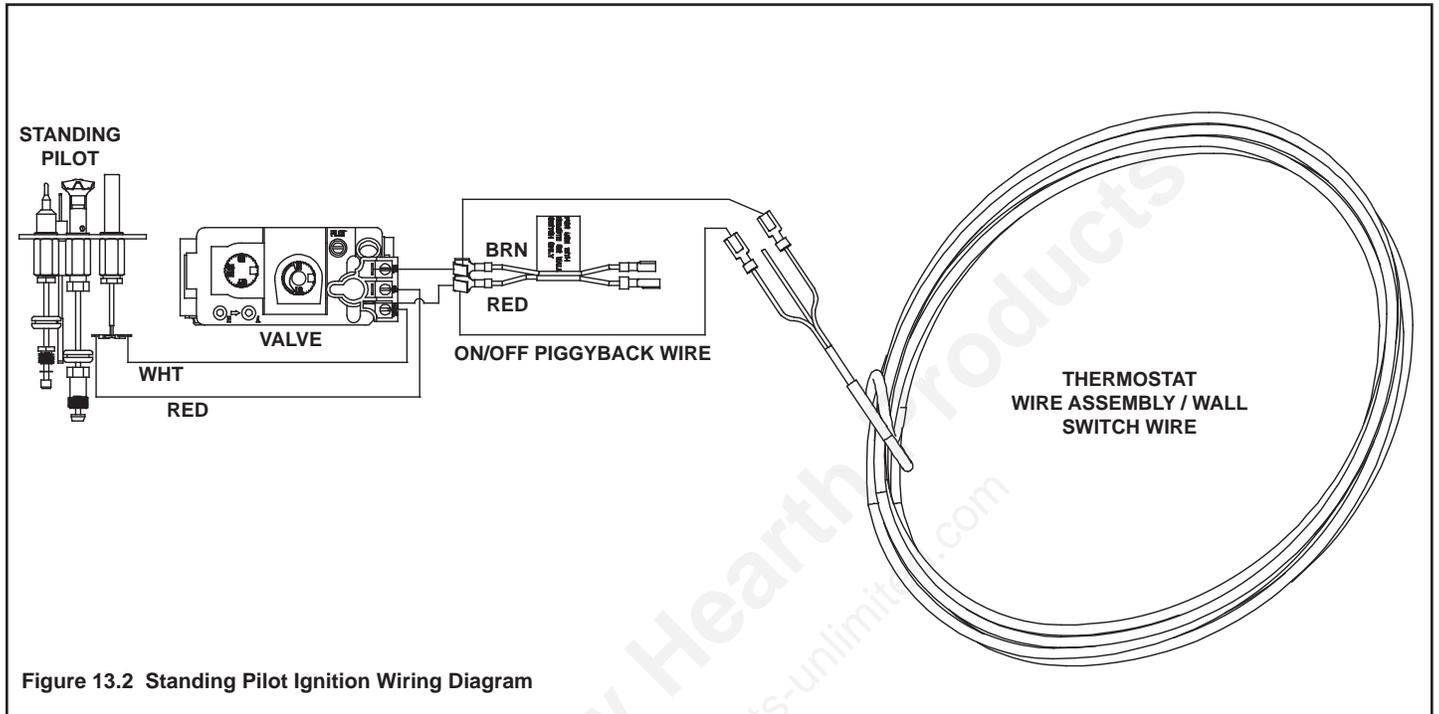

Figure 13.2 Standing Pilot Ignition Wiring Diagram
- A 110 VAC junction box **MUST** be installed for use with a fan or remote control. See Figure 13.2 for junction box wiring. Keep wire lengths short as possible.